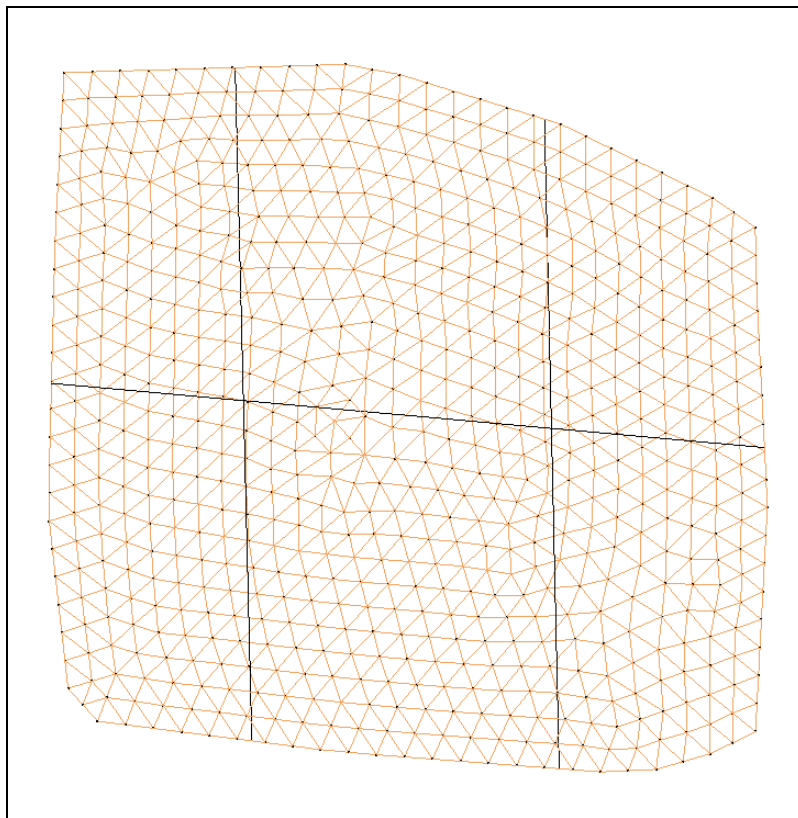

Figure 11 Cross-sections through stratigraphy model
2. Using the **Create Cross-Section**  tool, cut three cross-sections through the solid similar to the ones shown in Figure 11. Single-click to begin making a cross section and double-click to end.